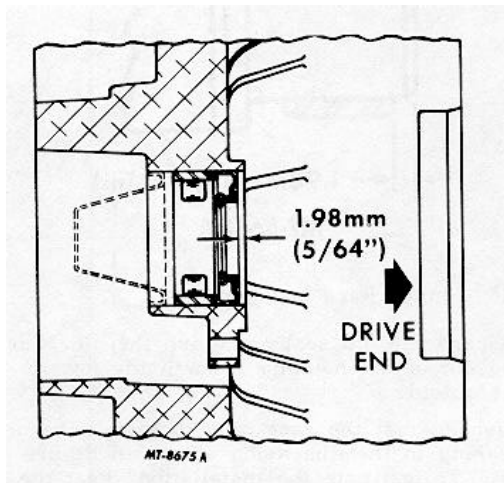

Fig. 20. Seal Location
5. Add lubricant to the seal lip and fill the cavity with lubricant between the rubber lip and steel case of the seal. Install the seal with the lip towards the bearing to the dimension shown in Figure 20.